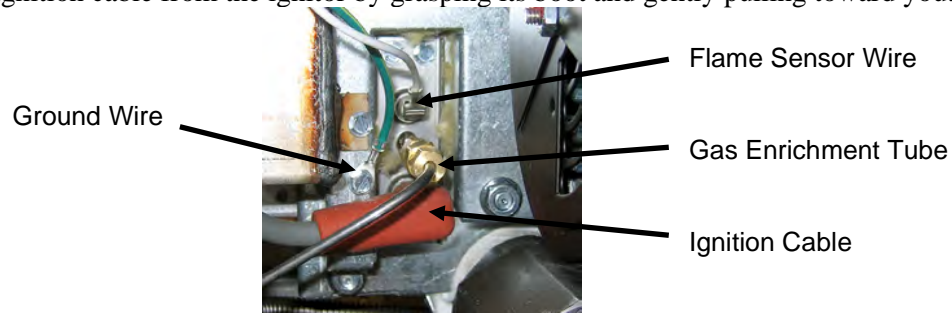

Figure 7
- Remove the blower (see Figure 7 in section 1.14.7).
2. Disconnect the flame sensor wire by carefully pulling its push-on terminal from the terminal tab on the ignitor (see Figure 7). Disconnect the gas enrichment tube at the ignitor-end compression fitting. Disconnect the ignition cable from the ignitor by grasping its boot and gently pulling toward you.